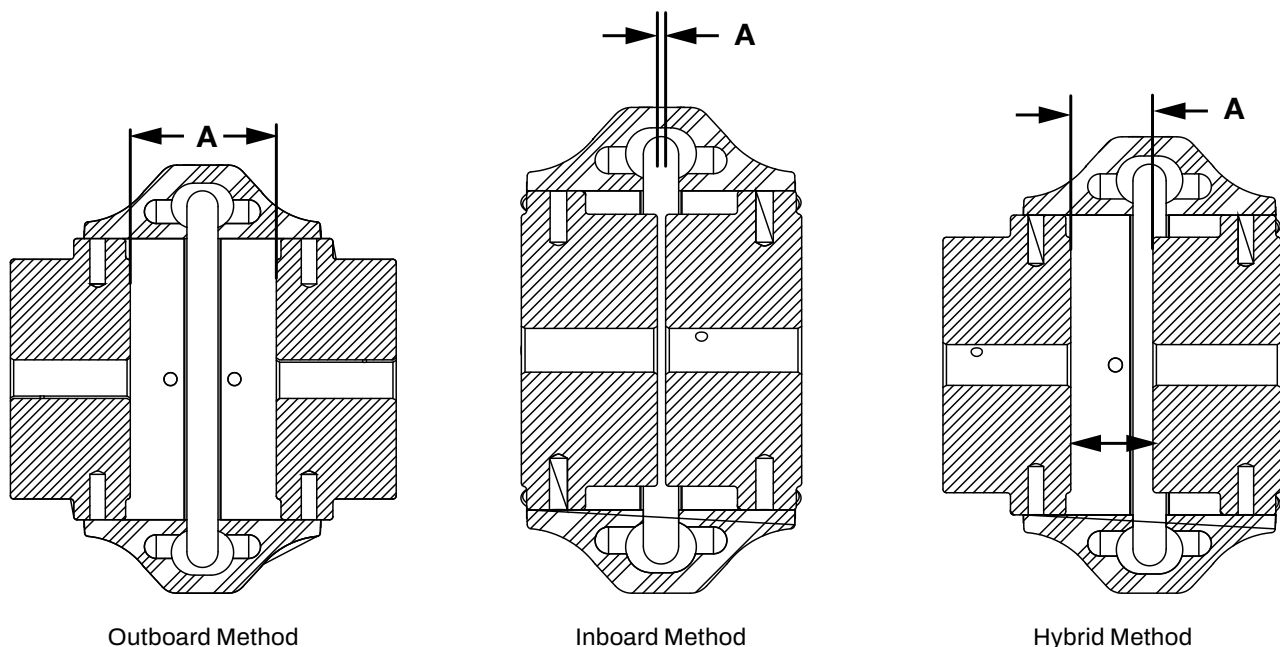

Figure 2 - Hub Orientation Options
1. Hubs may be oriented as seen in Figure 2. Depending on shaft spacing requirements, determine the best hub orientation using Table 1.
3. Use a half element to set proper hub spacing, or reference Table 1 to set appropriate shaft spacing. Depending upon shaft spacing requirements, hubs may be oriented as seen in Figure 2 where A is the dimensions between hub faces.
1. Adjust equipment to achieve the desired distance between hub ends. Refer to dimension A in Figure 2 and Table 1.